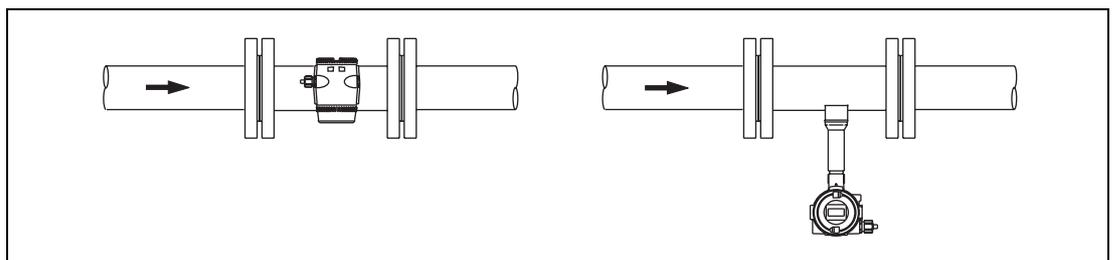

Fig. 3: Installations for High Fluid Temperatures > 150°C
- **for high fluid temperatures (> 150°C), the flowmeter primary should be installed so that the electronic assembly is mounted at the side or bottom of the flowmeter (Fig. 3).**